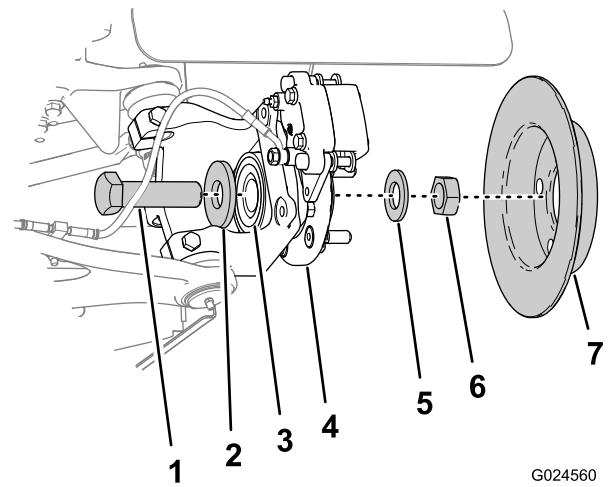

Figure 18
1. Pull the brake rotors out from the wheel hub (Figure 18).
2. Remove the spindle nut and washer (1 x 2 inch) that secures the brake rotor to the bearing in the wheel hub (Figure 18).
Note: At the inboard side of the steering knuckle, use a wrench on the head of the spindle bolt when removing the spindle nut (Figure 18).
3. Remove the spindle bolt and washer (1 x 2-5/8 inch) from the bearing in the wheel hub (Figure 18).